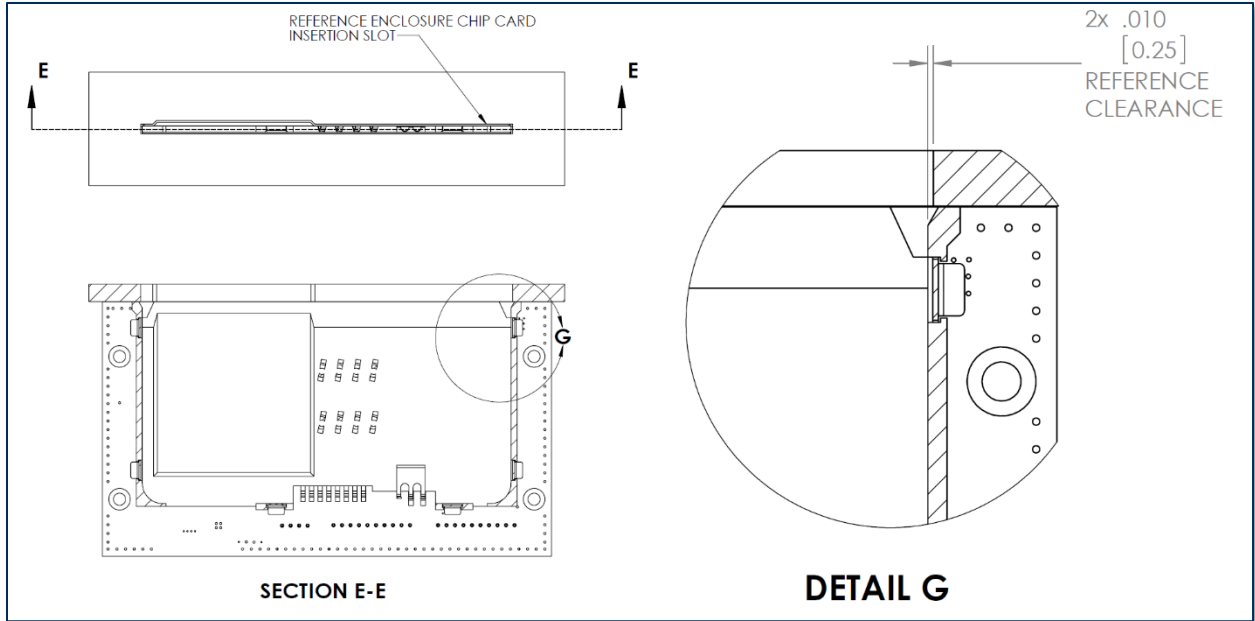
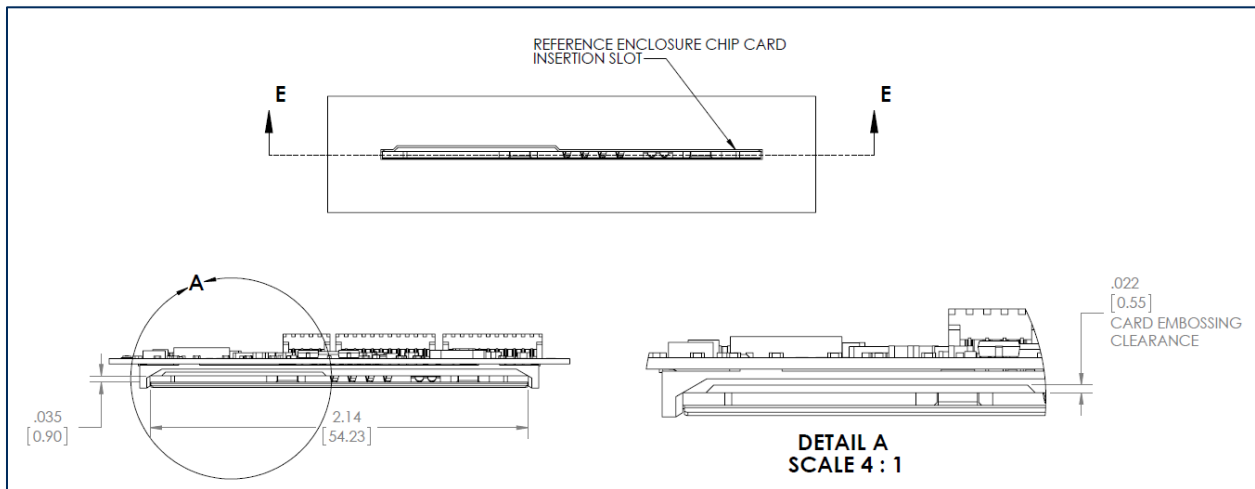
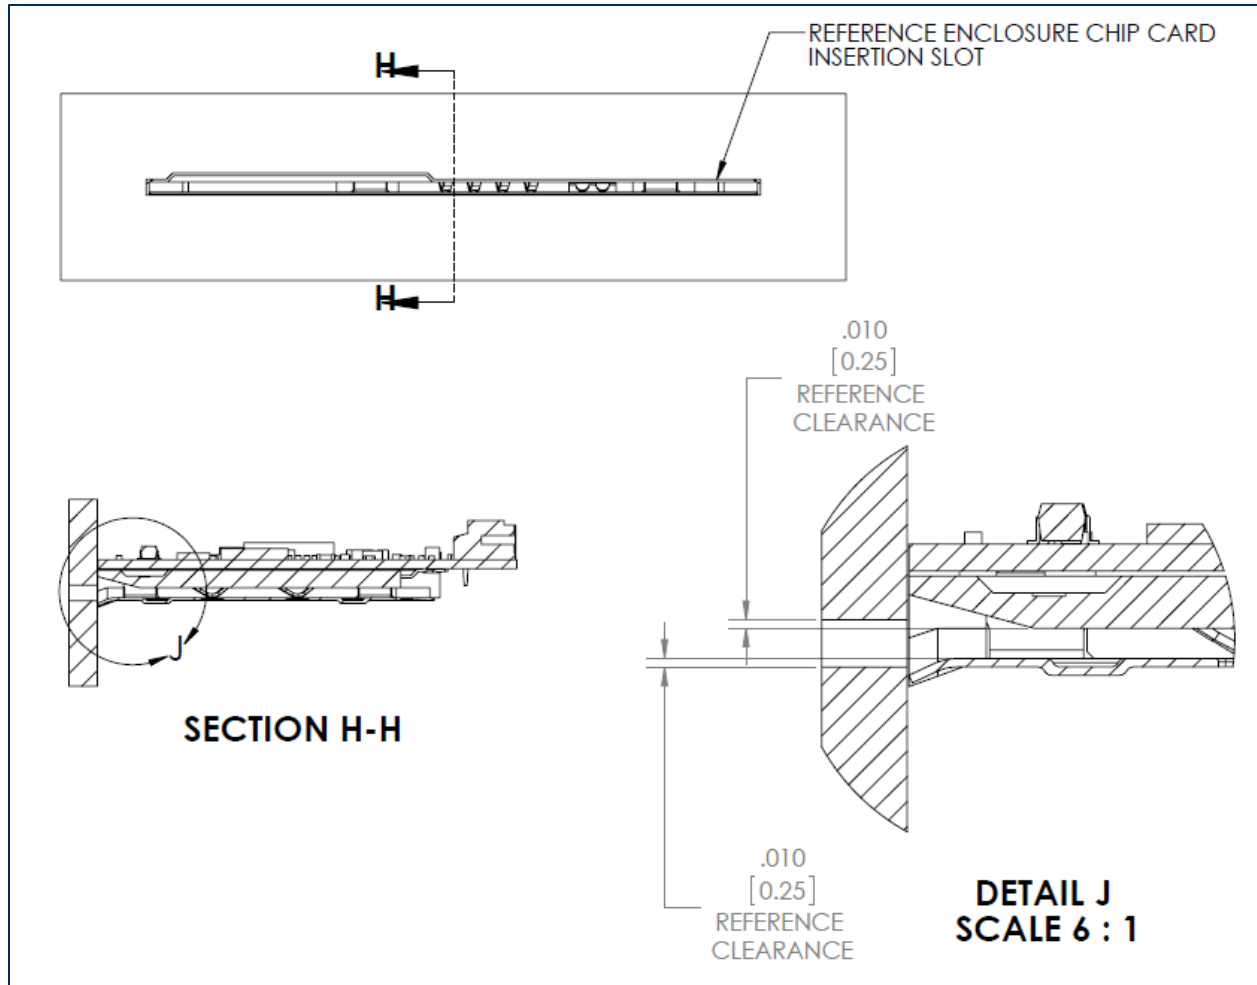

Figure 3-6 - Reference Enclosure, Card Slot Width
Figure 3-7 - Reference Enclosure, Card Slot Height, and Width
Figure 3-8 - Reference Enclosure, Card Slot Height
- The enclosure should have a card slot that aligns with the device’s chip card insertion slot. The enclosure’s card slot should accommodate cards conforming to **ISO 7816**: **Figure 3-6**, **Figure 3-7**, and **Figure 3-8** provide a reference card slot design to use as a starting point; features of the reference design include adequate clearance to avoid cards hitting the sides, top, and bottom of the mDynamo slot, and a cutout on one side of the slot to accommodate embossing on cards.